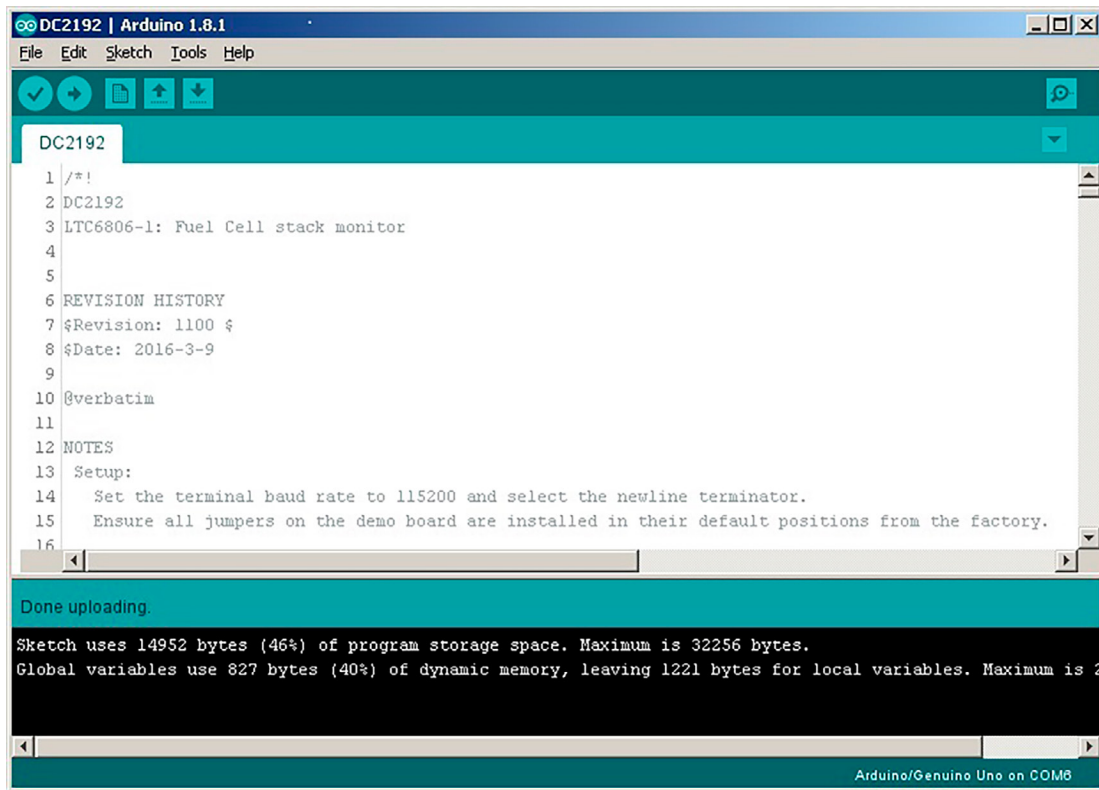

Figure 11. Uploading DC2192 Sketch
7. Upload the **DC2192** sketch onto the DC2026 by clicking on the **Upload** button on the top left corner. When this process is completed there will be a **Done uploading** message on the bottom left corner (see Figure 11).